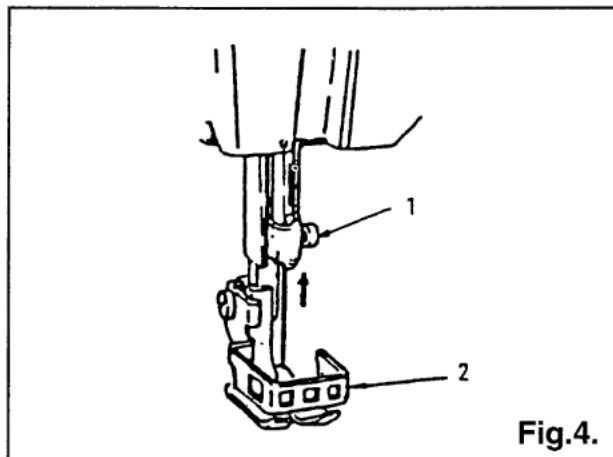

Fig.4.
Switch off the machine. Do not operate without finger guard. (2) (See Fig.4) Danger of injury !
Loosen needle set screw (1) (See Fig.4) Insert the needle in the needle bar and push it up as far as it will go.